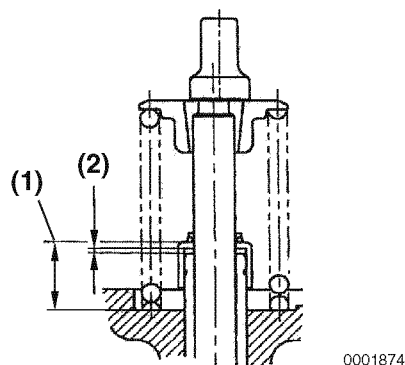

Figure 6-27
2. Measure the distance (Figure 6-27, (1)) from the cylinder head to valve stem seal to ensure proper clearance (Figure 6-27, (2)) between the valve guide and seal. See valve stem seal projection specification on page 6-6.